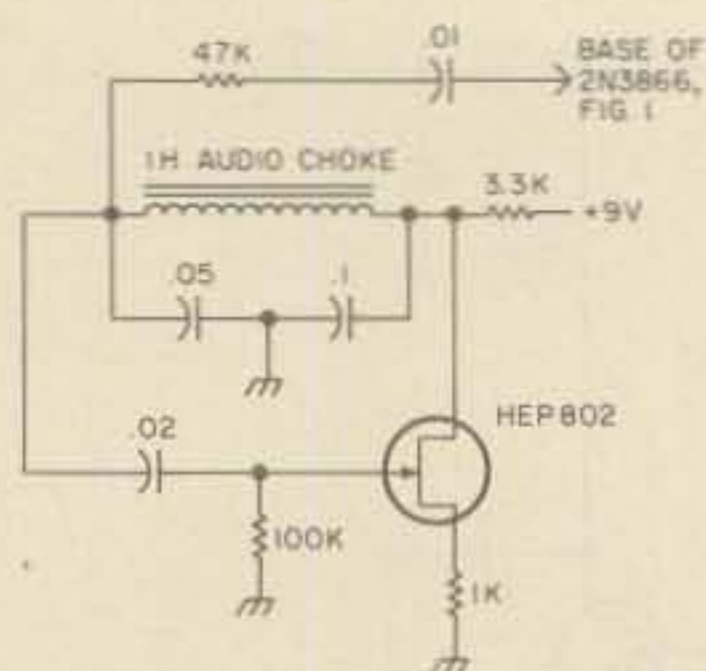

Fig. 2. Audio oscillator which can be added to the basic signal generator to aid in identification of the rf signal.
Tone modulation can be added to the generator by the circuit shown in Fig. 2. The circuit provides a single frequency tone modulation, which is useful to identify the presence of the rf signal when working with a receiver having only an envelope (AM) detector. By placing the output of the audio oscillator on the gate of the second FET (instead of on the base of the 2N3866 as Fig. 2 indicates), a slight FM modulation of the oscillator will occur. So, the signal generator can be utilized with SSB/CW, AM or FM receivers.